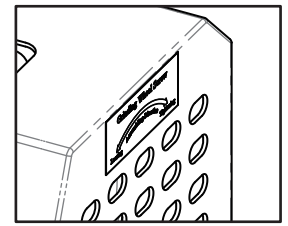

Fig. 9-1
① Unplug the power cord and make sure the power is off.
② Confirm the screw direction on the grinding wheel cover before changing the grinding wheel. (Fig. 9-1)